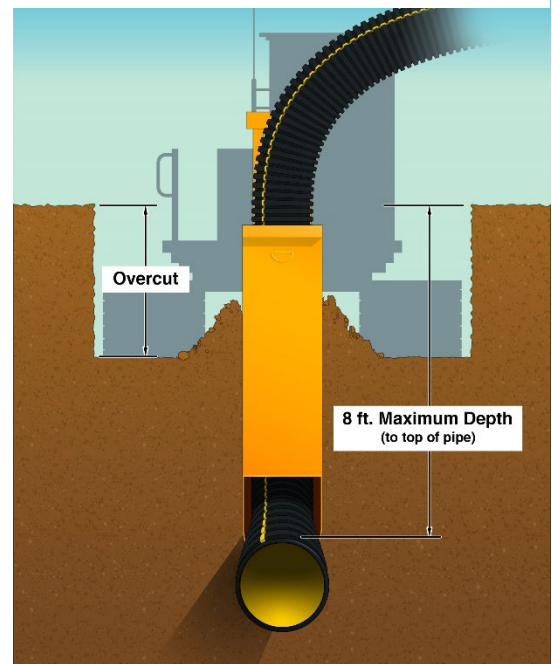

Figure 5: Goldflex Burial Depth and Overcut
- An overcut, or sub-cut, may be required for deeper burial depths (Figure 5). The depth and use of an overcut will vary based on pipe diameter, soil type, moisture content, ground temperature, etc.